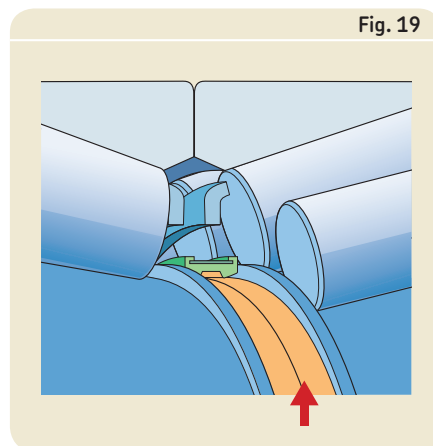

Fig. 19
- Fill the annular groove for the seal, that is in the middle of the bearing, with grease (→ **fig. 19**)